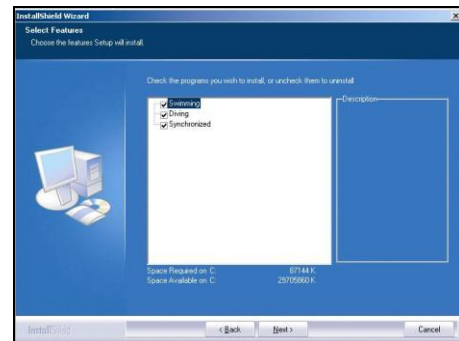

Figure 68: Select Features Box
5. In the *Select Features* Dialog box (*Figure 68*) choose the programs to install. Check the programs to install and click **Next** to begin. Program files are automatically installed to a default directory, *C:\Program Files\Daktronics\OmniSport 2000 Pro*, on the computer's hard drive.